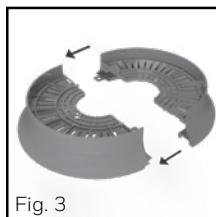

Fig. 3
- Align the front and back base pieces and gently push the halves until the pieces snap securely together. (Fig 3).